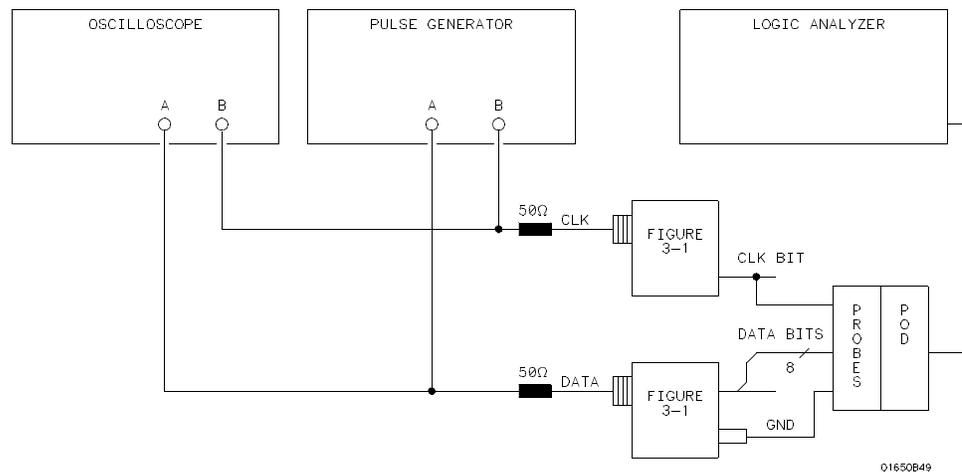

Figure 3-10. Test Setup for Data Test 2
1. Connect the HP 1650B\ 51B and test equipment as in figure 3-10.